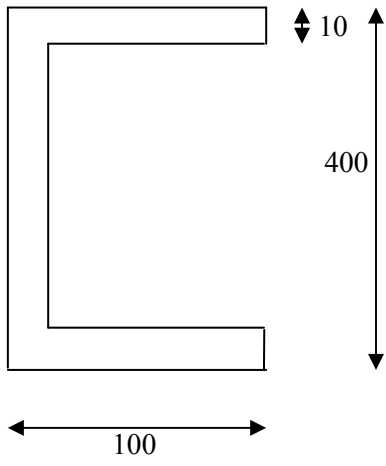

Figure 9
- (b)** The vertical shear action on a channel section is 3 kN. Find the shear flow and shear center of the section as shown in figure 9. Assume constant thickness of 10 mm throughout the section. $I = 1.21 \times 10^8 \text{ mm}^4$ **07**